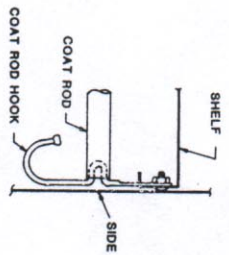

FIGURE 4
- 4.2 INSERT THE COAT HOOK THROUGH THE SLOT IN THE BOTTOM FLANGE AT THE SIDE OF THE SHELF. LINE UP HOLE, BOLT TOGETHER, AND TIGHTEN NUT. (FIG. 4)